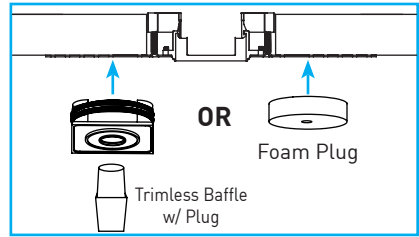

Fig.40
**Note:** 0.5" and 1.0" trimless baffles and respective plugs must be installed prior to mud-in. (Fig.40) Baffle profiles after mud-in provided for reference in "Fig. 44".